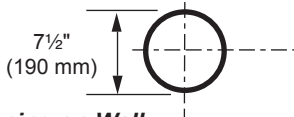

Figure 17 -
3. Attach vent pipe assembly to the stove. Set stove in front of its permanent location to insure minimum clearances. Mark the wall for a 9½" (241 mm) square hole (for noncombustible material such as masonry block or concrete, a 7½" [190 mm] diameter hole is acceptable). *Figure 17.* The center of the hole should line up with the center line of the horizontal rigid vent pipe. Cut a 9½" x 9½" (241 x 241 mm) square hole through combustible exterior wall (7½" [190 mm] diameter hole if noncombustible). Frame as necessary. *Figure 17*
3. Cut a hole in the roof using the locating hole as a center point. (Cover any exposed open vent pipes before cutting hole in roof). The 9½" x 9½" (241 x 241 mm) hole must be measured on the horizontal. Actual length may be larger depending on the pitch of the roof. There must be a 1" minimum clearance from the vent pipe to combustible materials. Frame the opening as shown in *Page 16, Figure 17*.